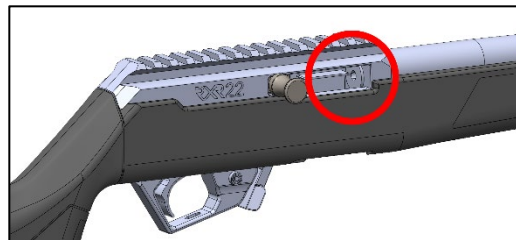

Figure 21
- Visually and physically check the barrel's chamber to be sure it is clear of ammunition - Figure 21.